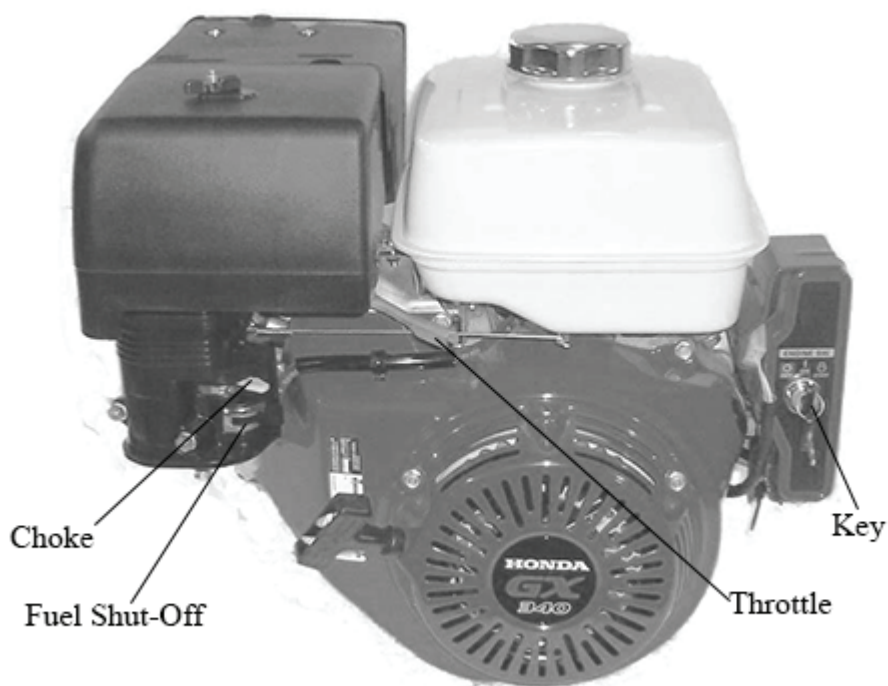

Figure 1.2
2. Slide the Fuel Shut-off Lever to the “ON” position (Figure 1.2).
3. Slide Choke Lever to the “ON” position (Figure 1.2).
4. Turn the key to the start position. Once engine starts, release key (Figure 1.2).
5. After starting, allow the engine to warm-up. Slide choke to the “OFF” position, and increase throttle speed (Figure 1.2).
6. To turn the engine off, slide the Fuel Shut-off to the “OFF” position (Figure 1.2).
3. Start the hydraulic power unit and increase throttle speed. (Allow hydraulic fluid to warm-up.) (Figure 1.2).
2. Start the hydraulic power unit and increase throttle speed. (Allow hydraulic fluid to warm up if it is cold outside) (Figure 1.2).